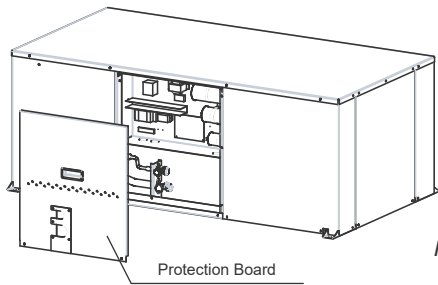

Fig.14-2
14.3 Wiring figure (Refer to Fig.14-2~ Fig.14-5)